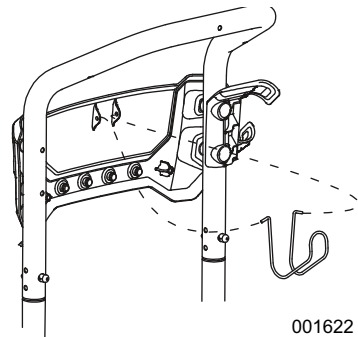

Figure 2-2. Install Hose Hook
2. See Figure 2-2. Install hose hook.